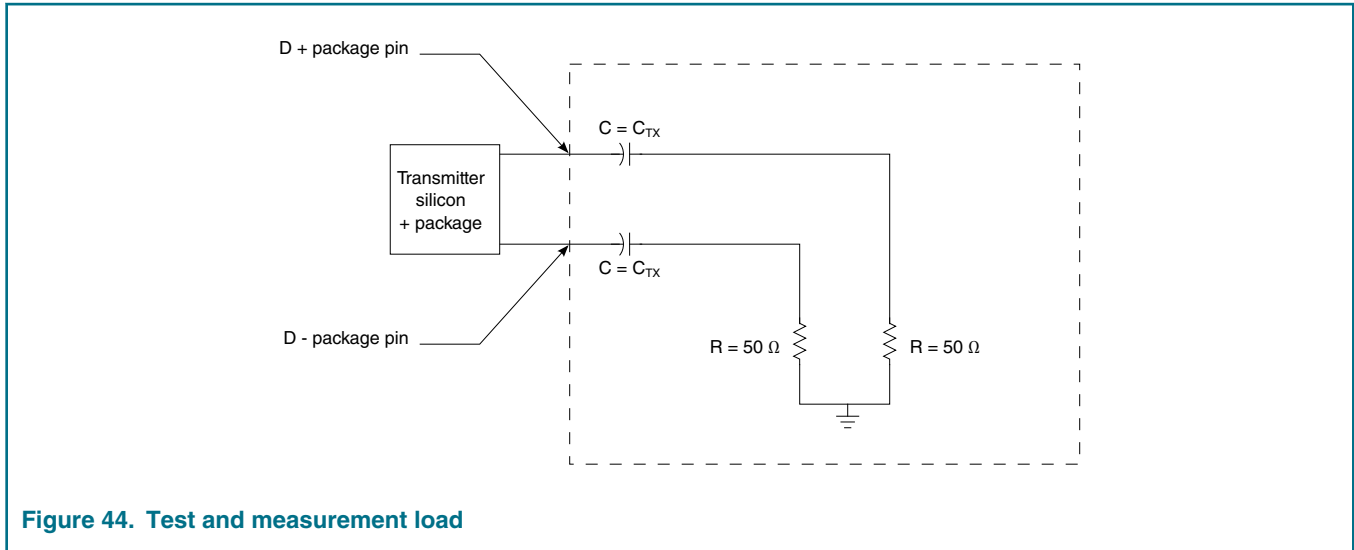

Figure 44. Test and measurement load
5. See Figure 44. on page 133.
1. Each UI is 200 ps ± 300 ppm. UI does not account for spread-spectrum clock dictated variations. 2. The maximum transmitter jitter can be derived as $T_{TX-MAX-JITTER} = 1 - T_{TX-EYE} = 0.25 \text{ UI}$. Does not include spread-spectrum or REFCLK jitter. Includes devices random jitter at 10^{-12} . 3. Specified at the measurement point into a timing and voltage test load and measured over any 250 consecutive transmitter Uis. 4. A $T_{TX-EYE} - 0.75 \text{ UI}$ provides for a a total sum of deterministic and random jitter budget of $T_{TX-JITTER-MAX} = 0.25 \text{ UI}$ for the transmitter collected over any 250 consecutive transmitter Uis. The $T_{TX-EYE-MEDIAN-to-MAX-JITTER}$ median is less than half of the total transmitter budget collected over any 250 consecutive transmitter Uis. It must be noted that the median is not the same as the mean. The jitter median describes the point in time where the number of jitter points on either side is approximately equal as opposed to the averaged time value. 5. See Figure 44 . on page 133. 6. Reference input clock RMS jitter (< 1.5 MHz) at pin < 1 ps. 7. All transmitters must be AC coupled. The AC coupling is required either within the media or within the transmitting component itself. 8. The chip's SerDes transmitter does not have C_{TX} built-in. An external AC coupling capacitor is required.